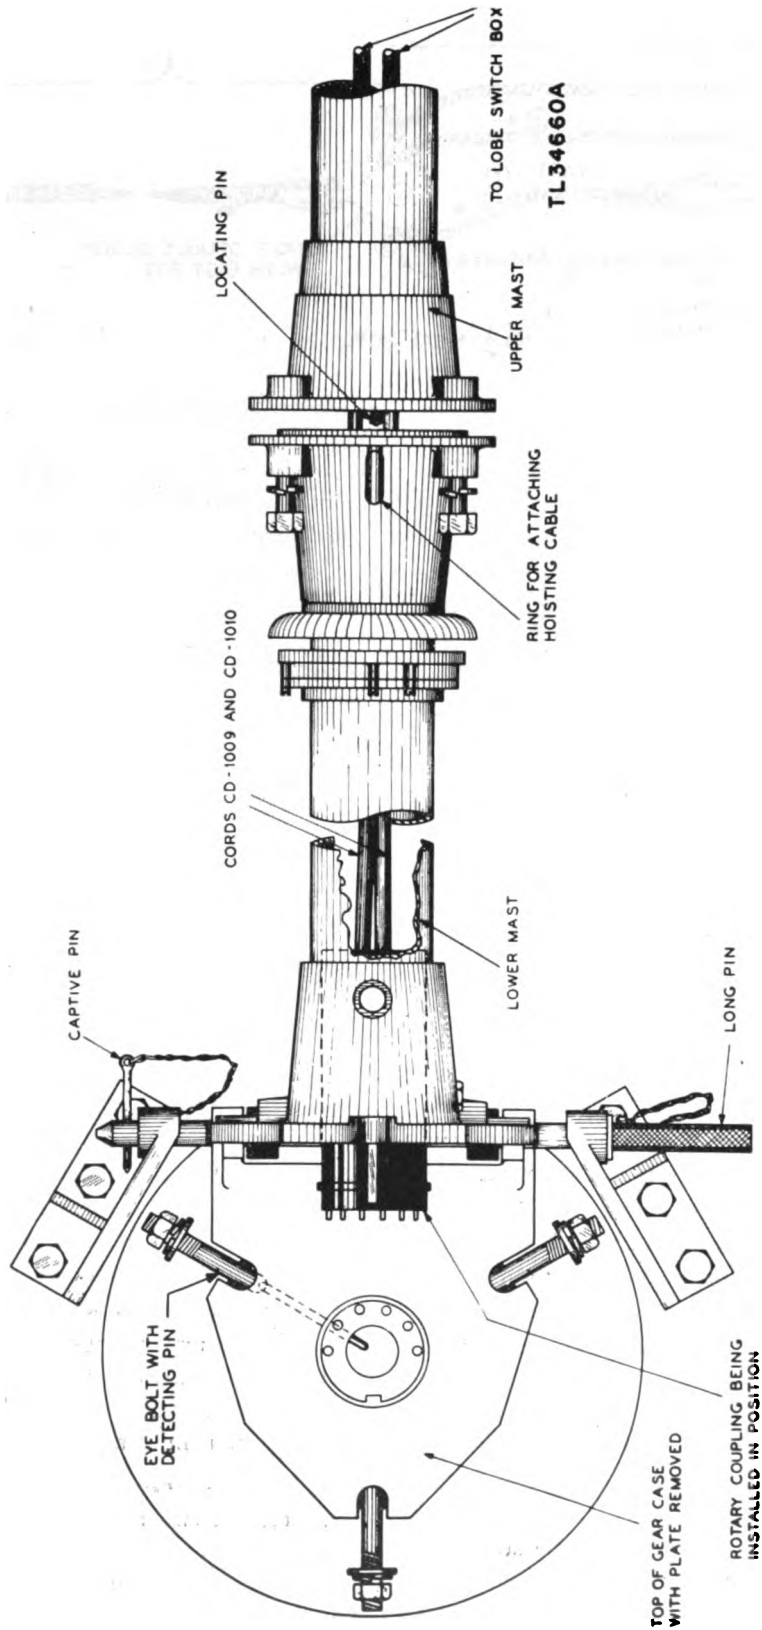

Figure 62. Tower TR-24-A, installation of mast cables and rotary coupling.
g. Run the wire section over the pulley on the tripod (fig. 59[C]). Allow the hooked end to drop between the other two legs so that the hook is directly in line with the ring at the top of the lower mast section (fig. 62). Slip the hook into this ring.
i. Lift the upper section of the mast into a horizontal position with its lower flange in position to be bolted to the lower section of the mast (fig. 62). A centering pin in the flange of the upper section indicates the proper position for bolting.
g. Push the free ends of Cords CD-1009 and CD-1010 into the base end of the mast until the rotary coupling is up against the base of the mast (fig. 62) and the ends of Cords CD-1009 and CD-1010 are inside the lobe-switch cabinet.